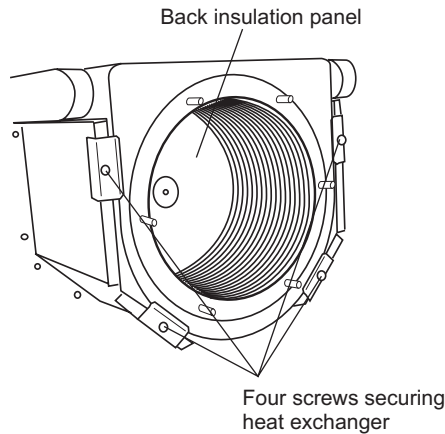

Fig. 29
8.16 PRIMARY HEAT EXCHANGER - See Fig. 29
Back insulation - see Fig. 29
| Fig. 29 | Primary heat exchanger - CD13R/18R | 1 | 1.021521 | H28-394 |
| Fig. 29 | Primary heat exchanger - CD24R | 1 | 1.019725 | |